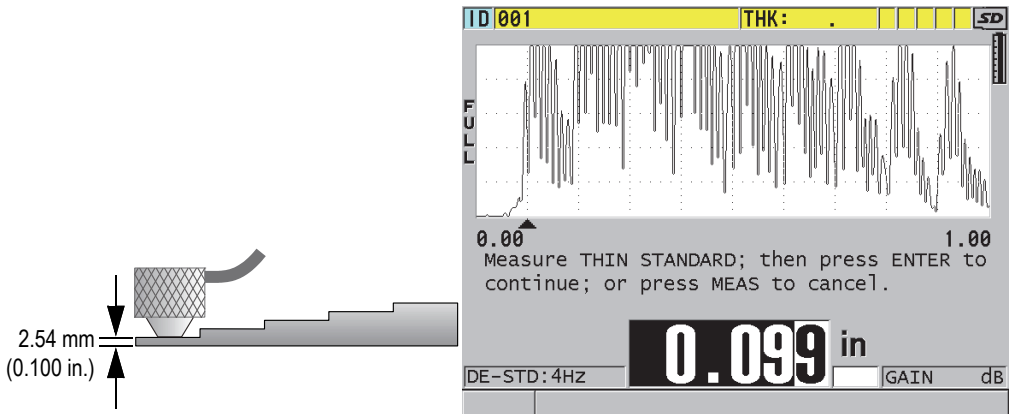

Figure 5-5 Performing the zero calibration on a 5-step test block
2. To perform the zero calibration (see Figure 5-5 on page 83):